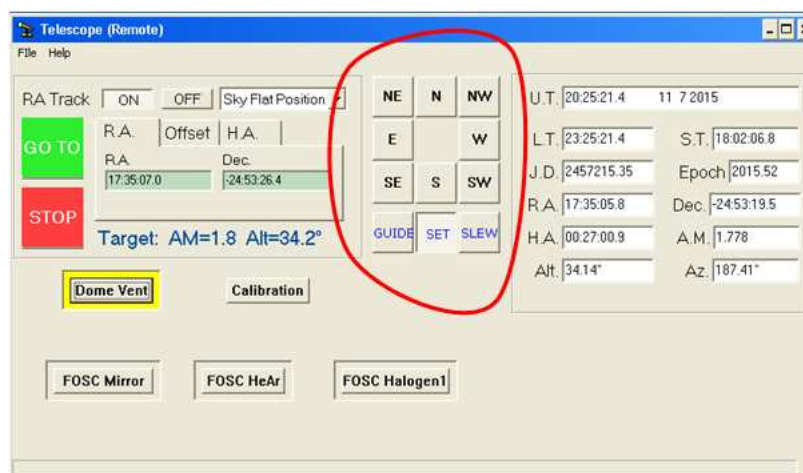

Figure 6.9: “SET” and “GUIDE” buttons in the “Telescope Agent”.
- Bring the star to the pinhole using the “SET” and “GUIDE” buttons in the “Telescope Agent” (figure 6.9).